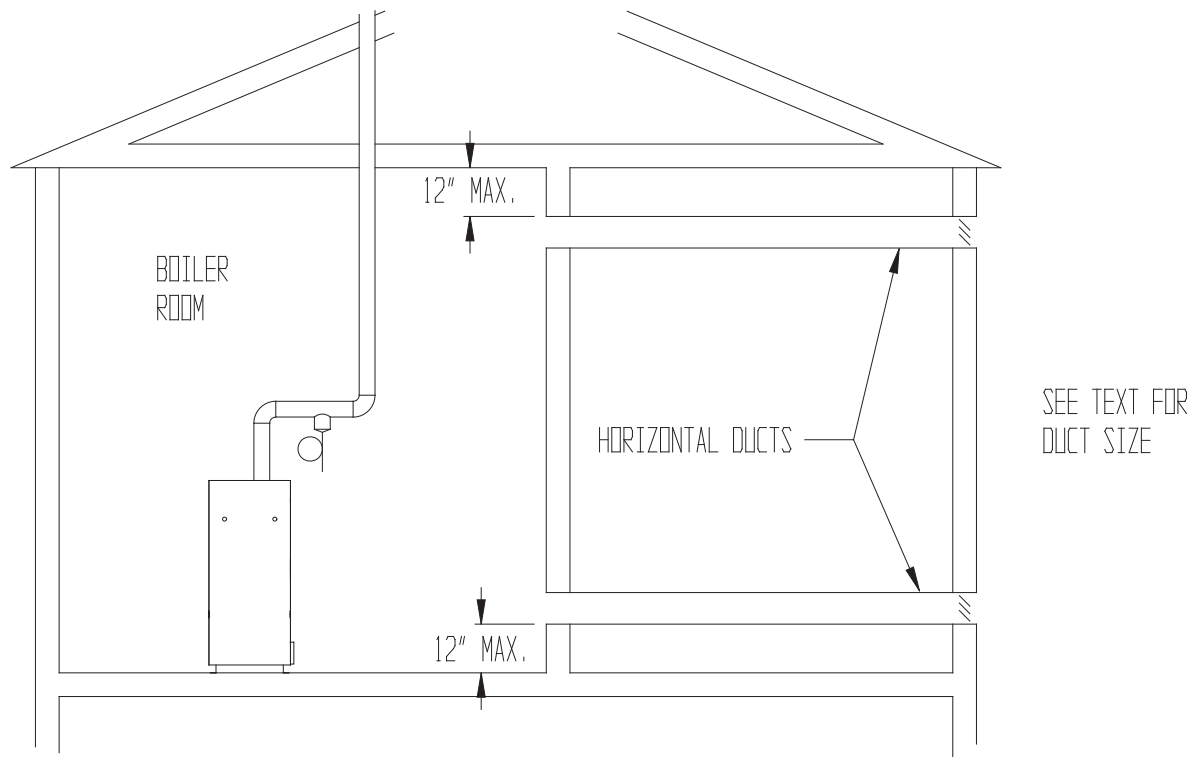

FIGURE 7: ALL AIR FROM OUTSIDE USING HORIZONTAL DUCTS INTO BOILER ROOM
- Openings to outdoors via horizontal ducts (Fig 7) - Each opening must have a free cross sectional area of 1 square inch per 2000 BTU/hr of the total input of all gas fired appliances in the boiler room but not less than 100 square inches. Minimum opening size is 3 inches.